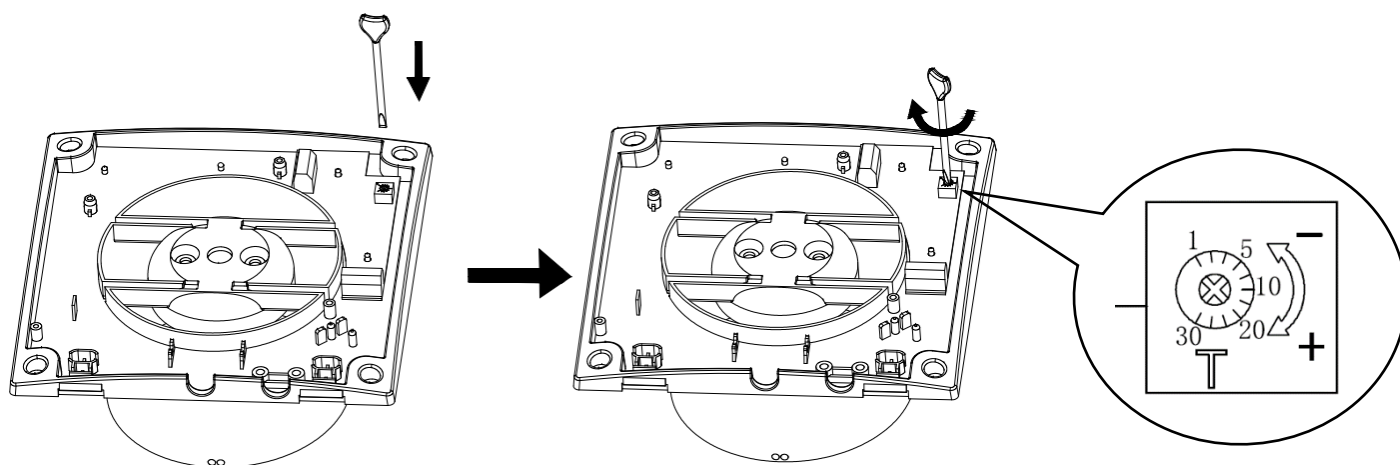

Fig. 3
9. This product has adjustable-length run-on timer function. Use the included adjustment tool to rotate the screw capacitor which will adjust the length of time that the exhaust fan will continue running after the wall switch has been switched off. (Adjustable from 1 to 30 minutes). (Fig.3)